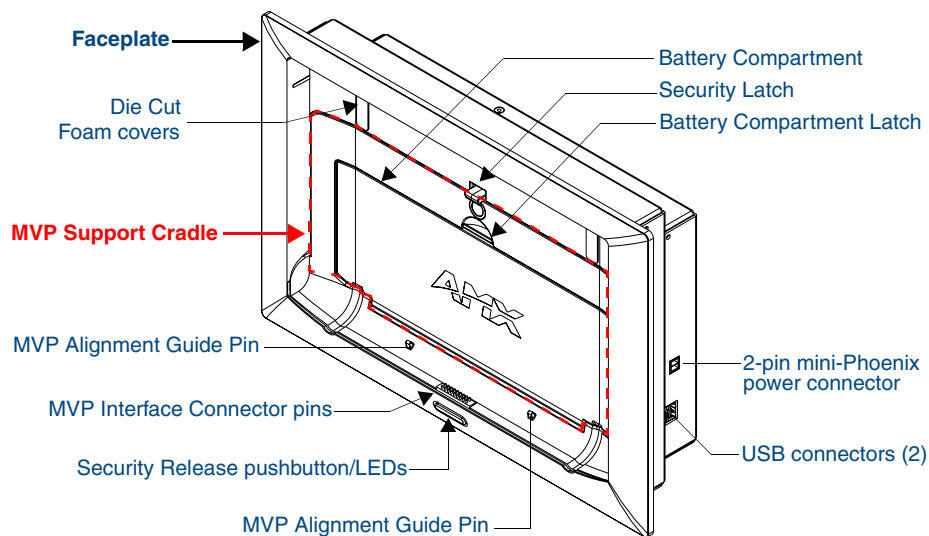

FIG. 4 MVP-WDS Docking Station components (front view)
2. Connect the mini-Phoenix connector from a compatible 12V power supply to the PWR connector on the side panel (see FIG. 4) to apply power.